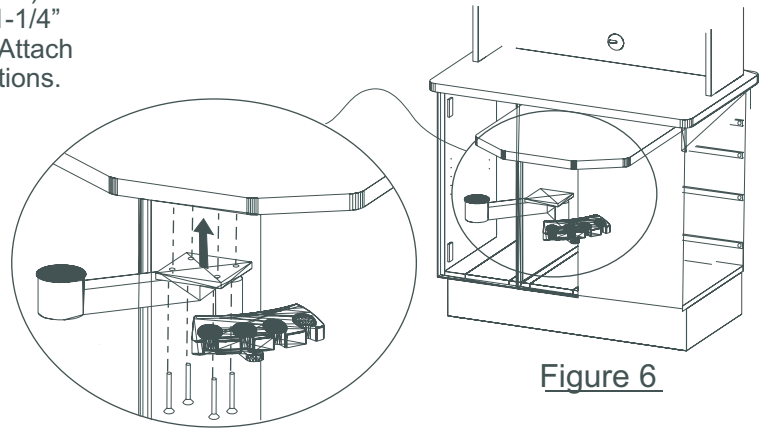

Figure 6
Mount the BDS-2571 Assistant Vacuum Package (shown) underneath the sliding countertop using (4) #10-24 x 1-1/4" allen screws using 5/32" Allen Wrench (see Figure 6). Attach connections according to the unit manufacturers directions.